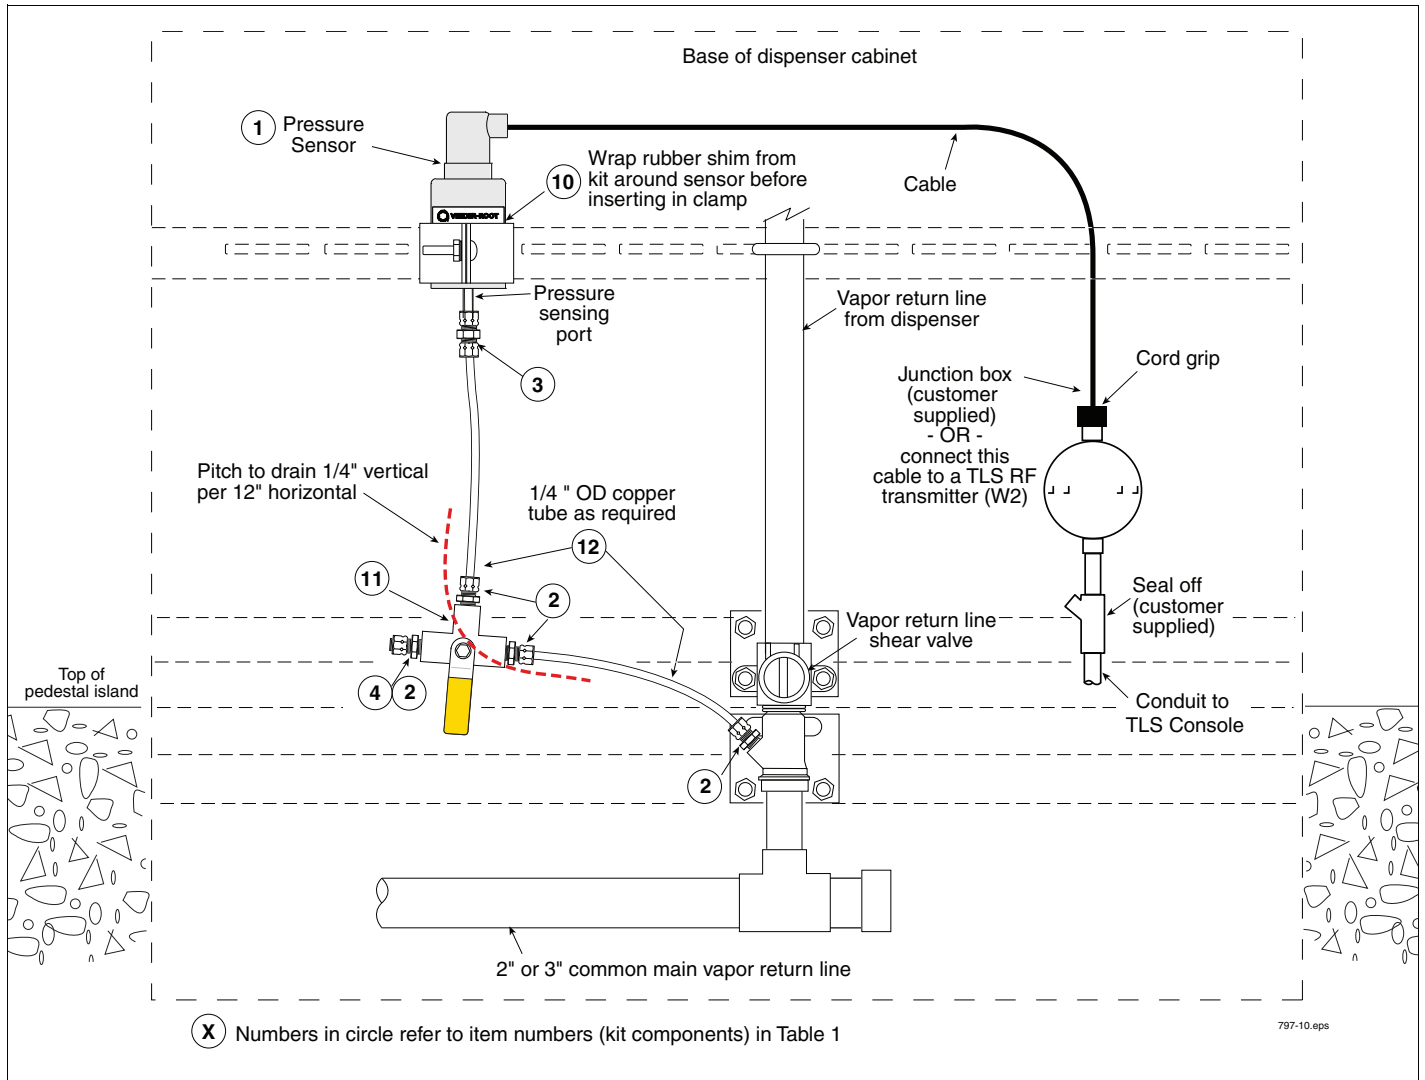
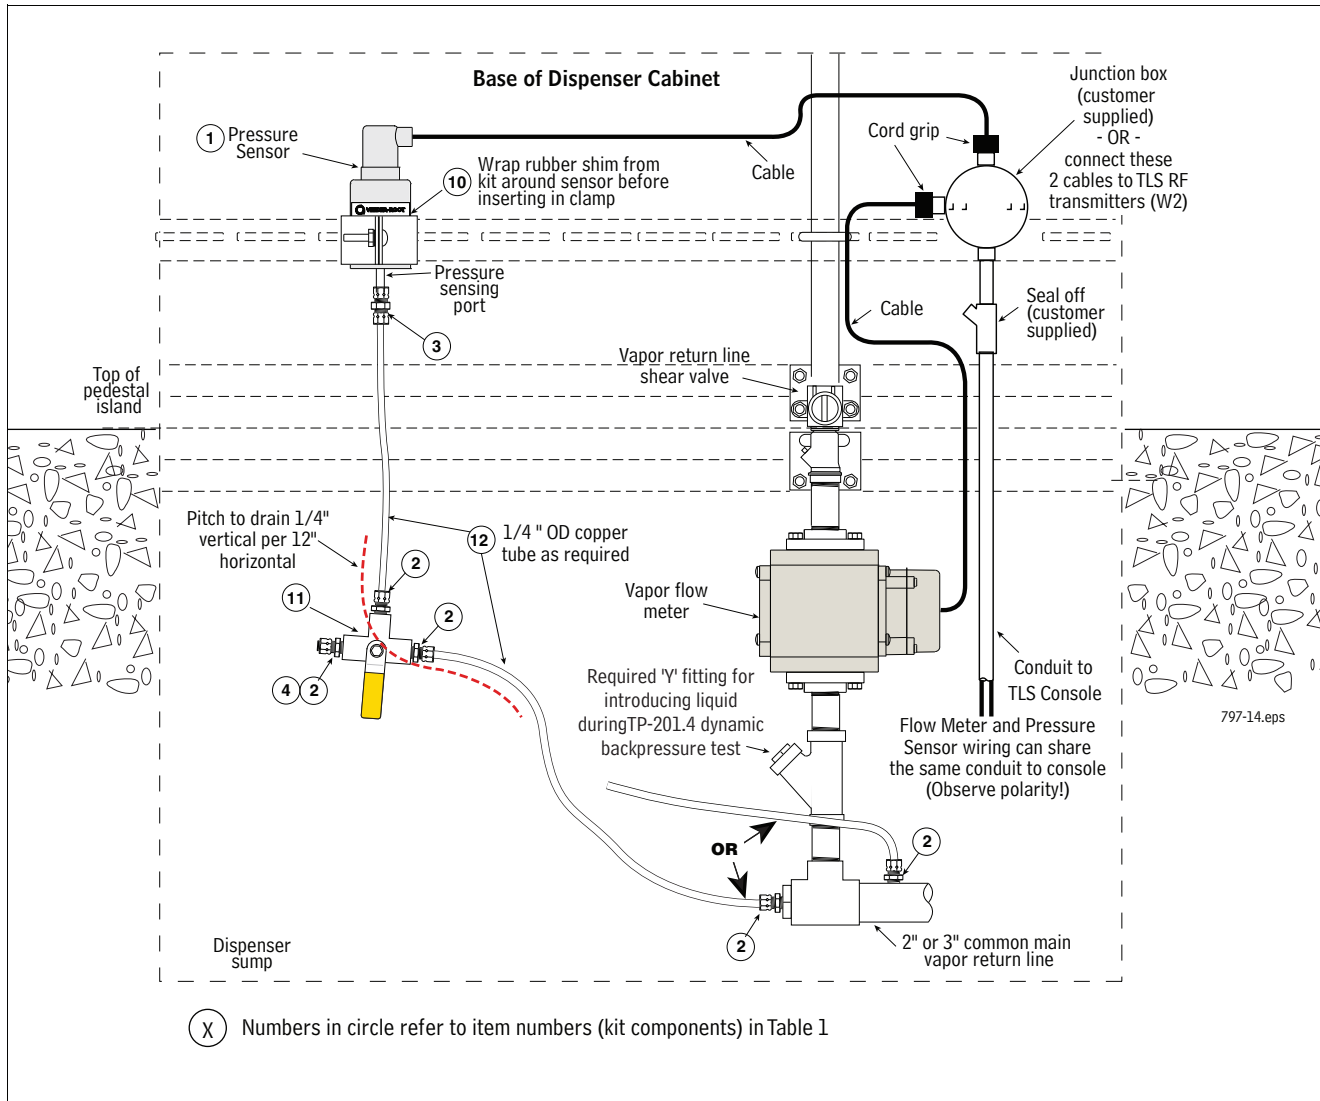

Figure 2. Example Pressure Sensor Install In Shear Valve Port - Preferred Non-ISD Installation (Without Vapor Flow Meter)
Figure 6. Example Pressure Sensor Install Below Vertical Access Fitting Or Vapor Return Line - ISD Installation (With Vapor Flow Meter Below Shear Valve)
3. Refer to Pressure Sensor dispenser installation examples in Figure 2 through Figure 6 to locate a suitable port or plumb a suitable fitting for the Pressure Sensor tubing in either the vapor return shear valve or in the
4. Install one of the 68CA-4-4 male connectors (item 2 in Table 1) from the kit into the tapped hole.
5. Install Pressure Sensor (item 1 in Table 1) vertically to the dispenser frame or piping using the 2-inch conduit clamp, rubber shim, and necessary bolts, nuts, and washers from the included Universal Sensor Mounting kit. Wrap the rubber shim (item 10 in Table 1) around the sensor before inserting it into the clamp. Also make sure the sensor cable outlet is facing up and the pressure sensing port tube in the base of the sensor is facing down.
6. Attach one end of the 62CA-4 union (item 3 in Table 1) to the pressure sensing port in the base of the Pressure Sensor.
7. Install the remaining 68CA-4-4 male connectors (item 2 in Table 1) from the kit into each of the three ports in the 3-way calibration valve (item 13 in Table 1).
8. Measure, fabricate, and install a 1/4" OD copper tube (item 12 in Table 1) that runs between the 62CA-4 union in the base of the sensor and the center port of the 3-way calibration valve.
9. Measure, fabricate, and install a 1/4" OD copper tube that runs between the 1/4" tube end of the male connector fitting installed beneath the shear valve mechanism and the right port on the 3-way valve, being careful not to create any potential liquid traps (Note 3-way valve orientation in Figure 6).
10. Screw the 59CA-4 plug, item 4, from the kit onto the left port's male connector. Make sure the valve's handle is set to connect the sensor to the vapor return line and not to the capped (ambient) port.